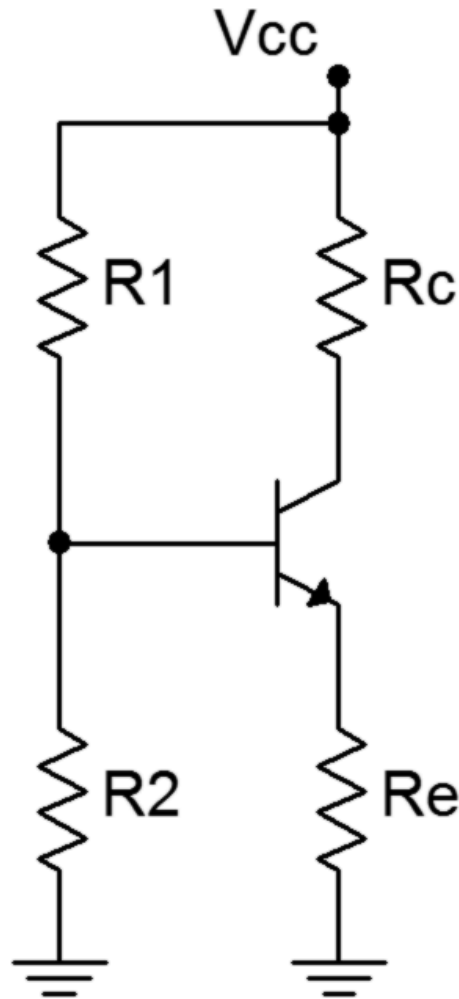

Figure 1
1. Consider the circuit of Figure 1 using $V_{CC} = 10$ volts, $R_1 = 10\text{ k}\Omega$, $R_2 = 3.3\text{ k}\Omega$, $R_E = 4.7\text{ k}\Omega$ and $R_C = 5.6\text{ k}\Omega$. Using the approximation of a lightly loaded “stiff” voltage divider, determine the ideal end points of the DC load line and the Q point, and record these in Table 1.
3. Build the circuit of Figure 1 using $V_{CC} = 10$ volts, $R_1 = 10\text{ k}\Omega$, $R_2 = 3.3\text{ k}\Omega$, $R_E = 4.7\text{ k}\Omega$ and $R_C = 5.6\text{ k}\Omega$. Measure the base, emitter and collector voltages and record them in the first row of Table 2 (Experimental). Compute the deviations between theoretical and experimental and record these in the first row of Table 2 (% Deviation).
9. Build the circuit of Figure 1 in a simulator. Run a DC simulation and record the resulting transistor voltages in Table 6.